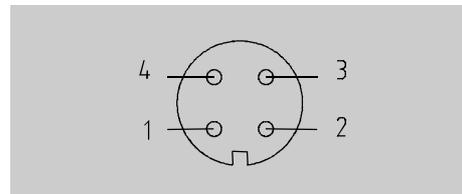
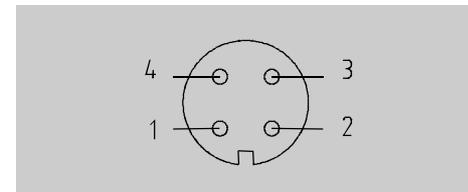

Fig. 2. Fill level indicator (no. 17) – pin assignment for upper connector
Fig. 3. Fill level indicator (no. 17) – pin assignment for lower connector
- 17 Connector level switch (Fig. 2, Fig. 3) (optional)**
There is also the option to equip the MQL system LUBRILEAN® Vario with a four-point float switch. See Fig. 2 and for the pin assignment.